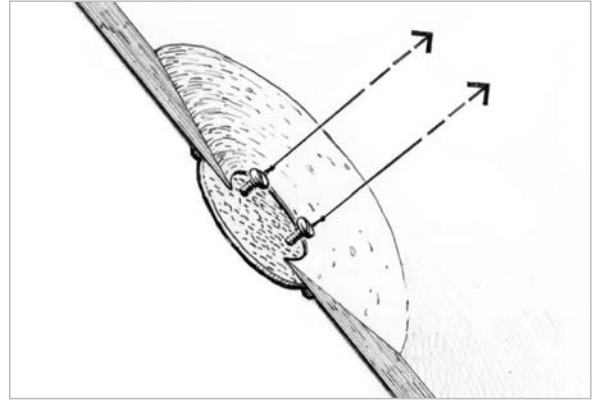

Figure 4-4 Pull the backer tight against the inside of the panel to permanently bond the backer in position.
4. Pull the backer into position on the inside of the panel and tie off the strings to a stationary object close to the hole or a stick laid across the hole (*Figure 4-4*). Keep enough tension on the strings to hold the backer in position and bend the backer as necessary to match the contour of the panel. Some of the epoxy mixture should squeeze out of the joint. Scrape away the excess and smooth the joint before it begins to cure. Allow the epoxy to cure thoroughly before removing the screws.